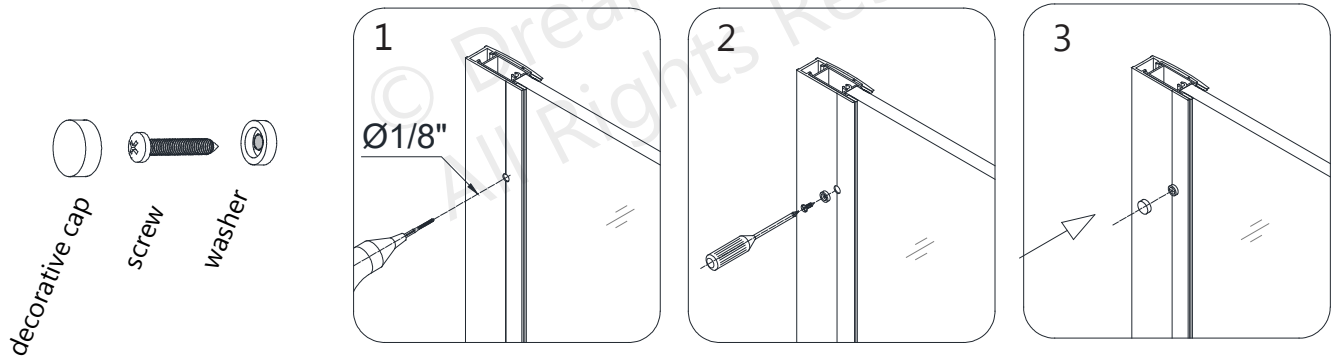

Fig 8
8. Recheck the alignment and spacing of the **Door Glass** and **Panel Glass (#11)** and test the operation of the Door. After final adjustments of the **Panel Glass (#11)** drill holes into the **Glass Profile (#10)** through the predrilled holes in the **Wall Profile (#09)** using an **Ø1/8"** drill bit. Use the **Pan Head Screws ST4.2×10 (#14)** and **Washers (#17)** to attach the **Wall Profile (#09)** to the **Glass Profile (#10)**. Cover the exposed screw heads with **Decorative Screw Cover (#17)**. (**Fig 8**)